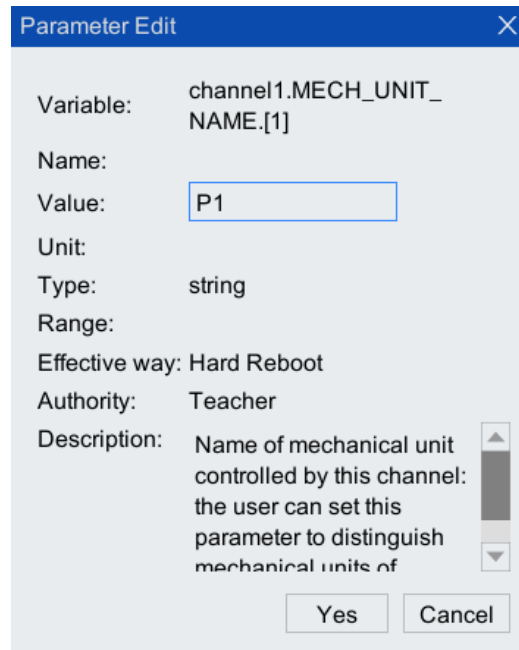

Figure 4-7 Mechanical unit name configuration interface
- Step 11. Click <Edit>, and the dialog box shown in Figure 4-7 will pop up. Configure the parameters in [Value] (for example: P1), and click <Yes>.